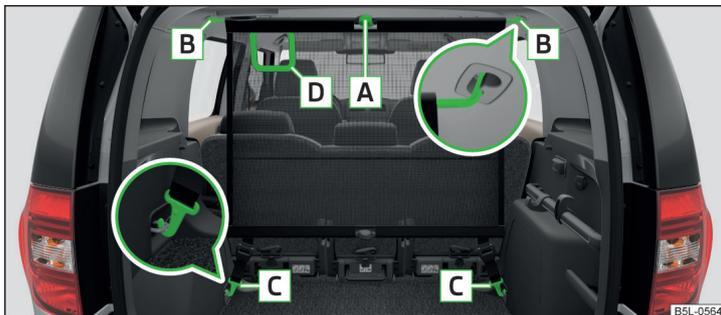

Fig. 101 Using the net partition behind the rear seats
- First insert the rod into the mount **[B]** » Fig. 101 on one side and push it forwards. In the same way, insert the cross rod into the mount **[B]** on the other side of the vehicle.
- Undo the belts on both sides and unhook the carabiners **[C]** » Fig. 101.
- Press the red button on hinge **[A]** » Fig. 101 - the hinge breaks.
The opening **[D]** » Fig. 101 in the net partition is designed to pass the three-point seat belt » page 15 through.